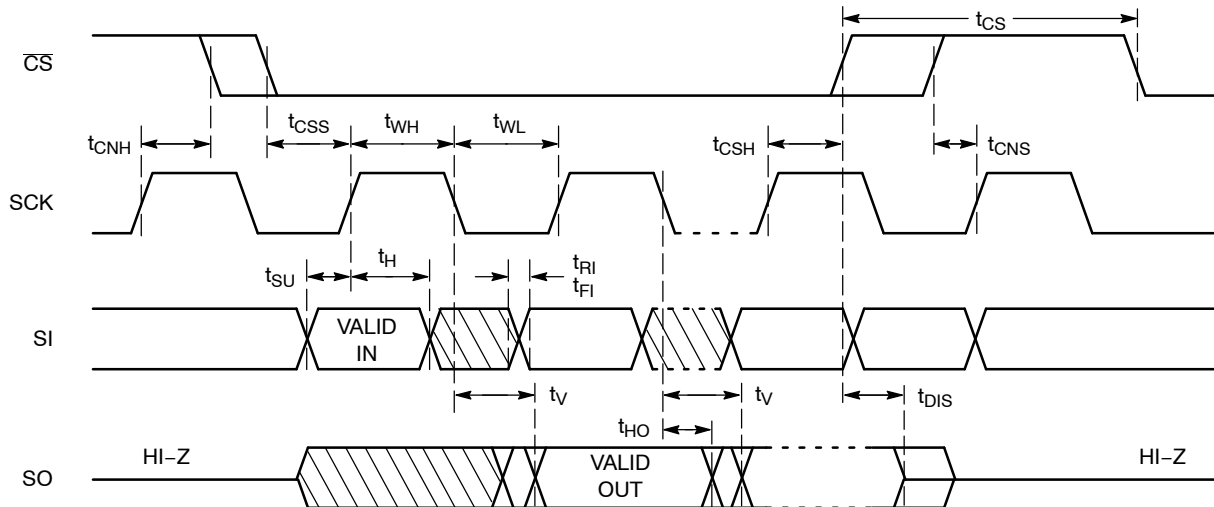

Figure 2. Synchronous Data Timing
- All Chip Select (CS) timing parameters are defined relative to the positive clock edge (Figure 2). t_{CSH} timing specification is valid for die revision D and higher. The die revision D is identified by letter "D" or a dedicated marking code on top of the package. For previous product revision (Rev. C) the t_{CSH} is defined relative to the negative clock edge (please refer to data sheet Doc. No. MD-1006 Rev. U)**
After a high to low transition on the $\overline{\text{CS}}$ input pin, the CAT25010/20/40 will accept any one of the six instruction op-codes listed in Table 7 and will ignore all other possible 8-bit combinations. The communication protocol follows the timing from Figure 2.